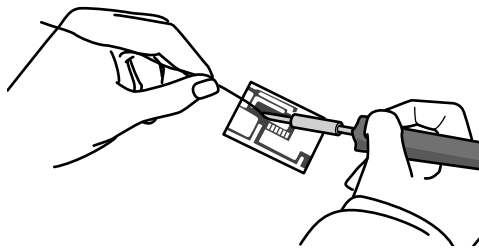

Fig. 7
- 9 Fig. 7 shows a student soldering electronic components.